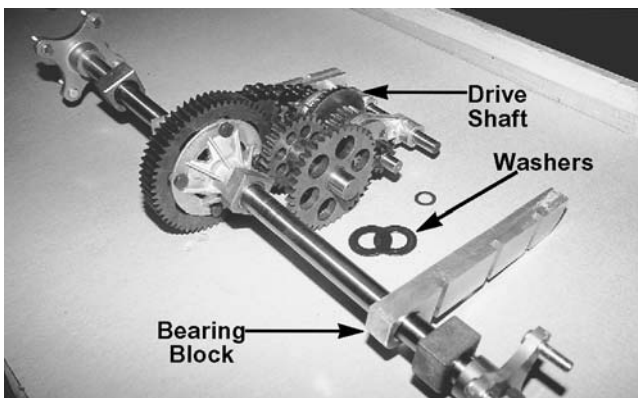

Figure 5-74.
15. Next remove the right hand bearing block. Remove the washer on the drive shaft. Remove the shift fork assembly and inspect the shift fork tabs for wear or damage. Inspect the slots for damage. See Figure 5-74.